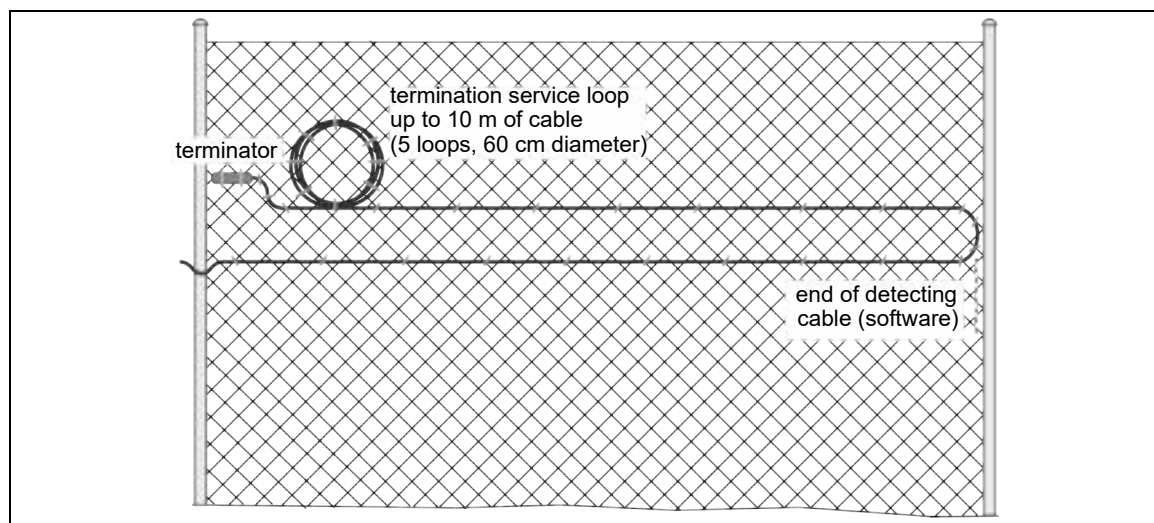

Figure 27: Termination loop example
- If there is excess cable at a terminator location, loop the cable back for one fence panel and form a termination loop by creating up to 5 loops of sensor cable with a 60 cm (2 ft.) diameter. This will provide up to 13 m of sensor cable that can be used for future repairs or for changes in the sensor cable layout. Figure 27: illustrates the recommended configuration for a termination loop.